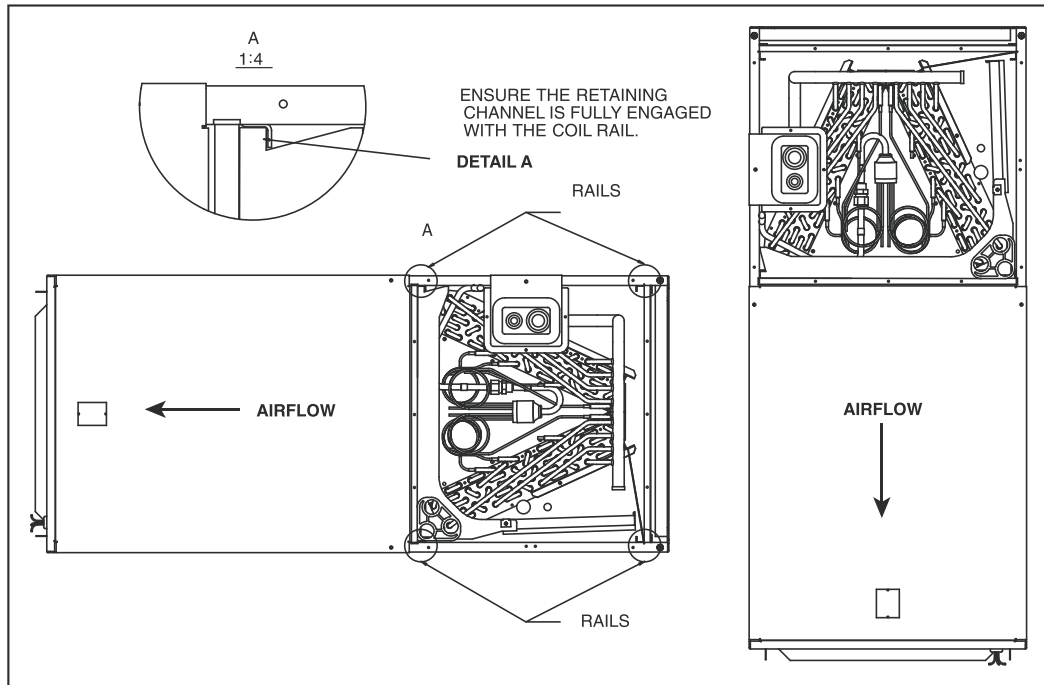

Fig. 3 Vertical Downflow & Horizontal Left Applications (shown with lower front service panel removed)
Conversion to Vertical Downflow: A vertical upflow unit may be converted to vertical downflow. Remove the door and indoor coil and reinstall 180 degrees from its original position (Refer to Fig. 3).
- 1.) Rotate unit into the downflow position, with the coil compartment on top and the blower compartment on bottom (**Refer to Fig. 3**).
- 2.) Reinstall the indoor coil 180° from the original position. Ensure the retaining channel is fully engaged with the coil rail (**Refer to Fig. 3**).